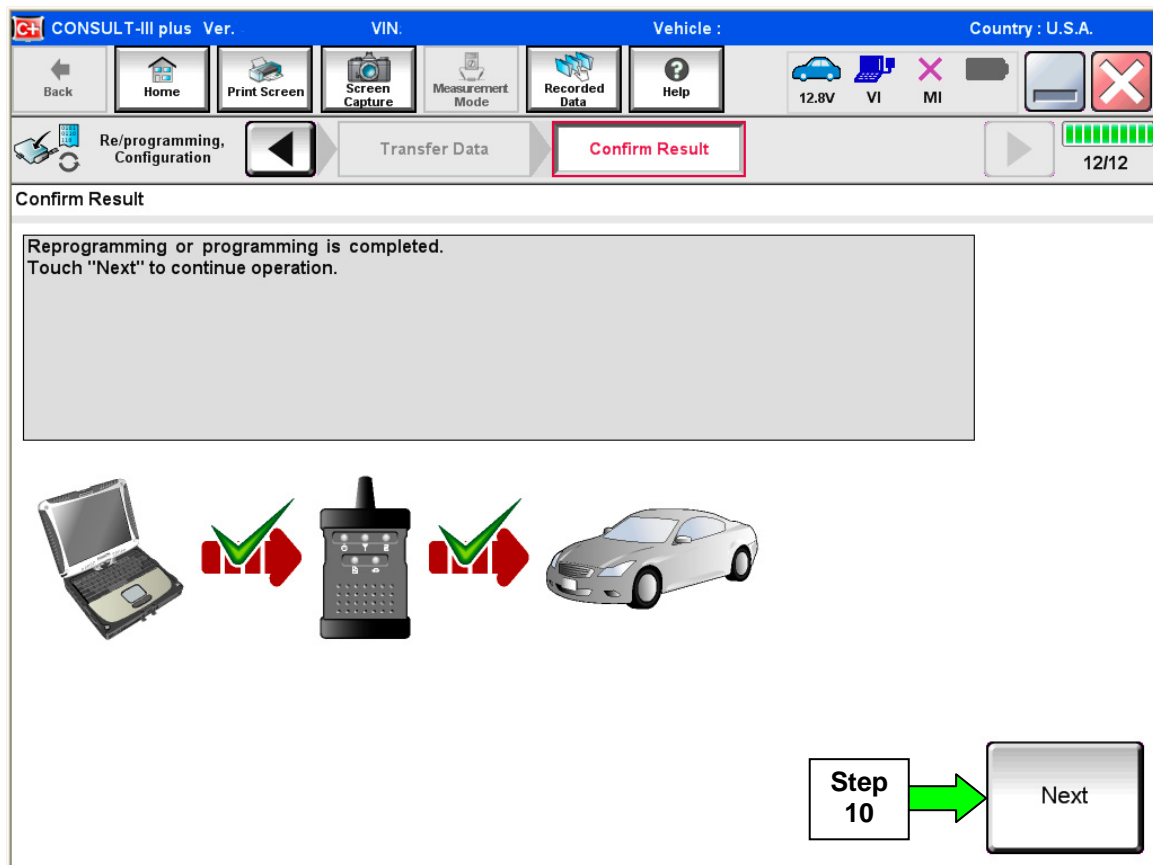

Figure 4
8. When the screen in Figure 4 displays, reprogramming is complete.
**NOTE:** If the screen in Figure 4 does not display (reprogramming does not complete), refer to the information on page 8.